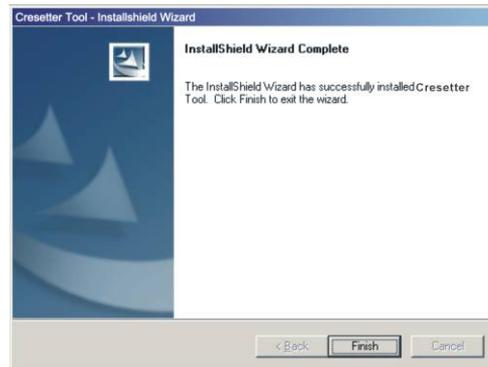

Figure 5-6
5. Click "Finish" in the popped box to finish installation, as shown in Figure 5-6: